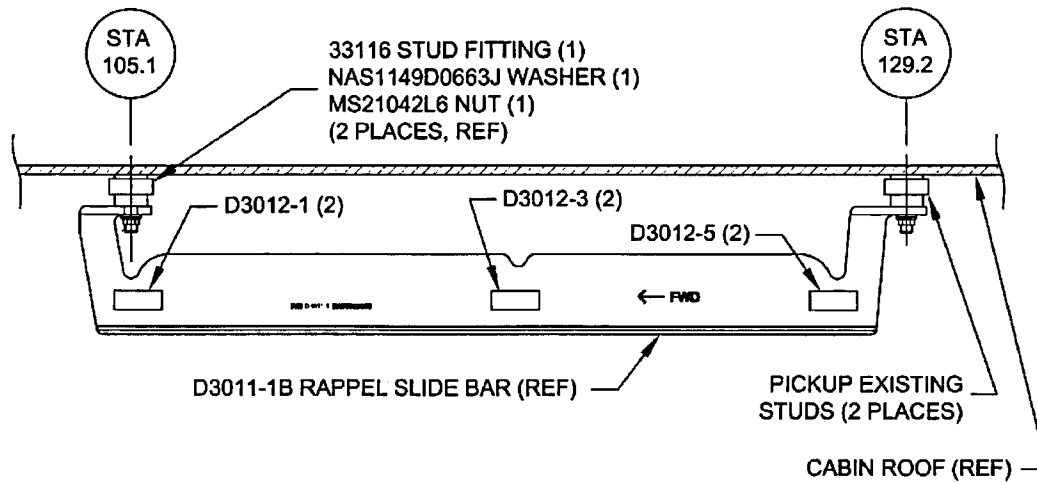

FIGURE 3: Installation of D205-523-043B Slide Bar Assembly
- 2.6 Install the D205-523-043B Rappel Slide Bar Assembly, picking up on existing studs from Step 2.2 as shown in Figure 3 of this DSI.